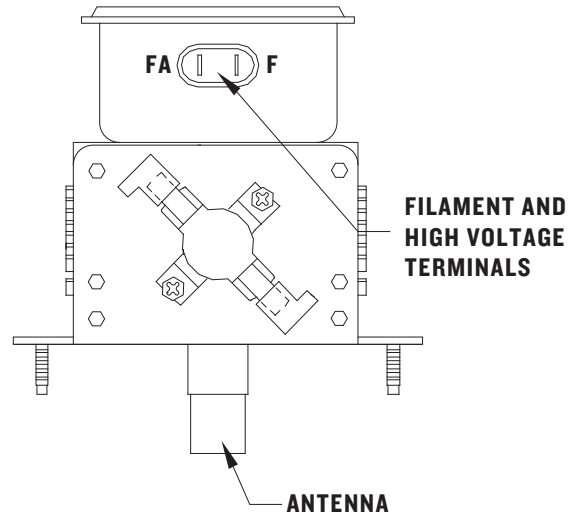

FIGURE 25: Magnetron
2. Isolate the magnetron from the circuit by removing the wires from the F and FA terminals. Figure 25.
3. An ohmmeter connected between the filament terminals (F, FA) should indicate a reading of less than 1 ohm. Figure 25.